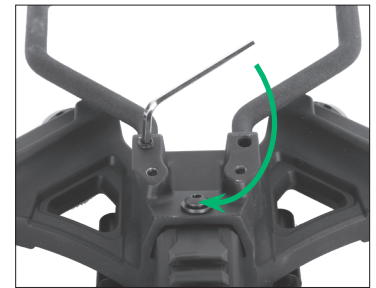

FIGURE 6
- 2a** Attach the stirrup onto the riser by using the 2 stirrup mounting screws (L) using the small hex wrench. (Fig. 6)